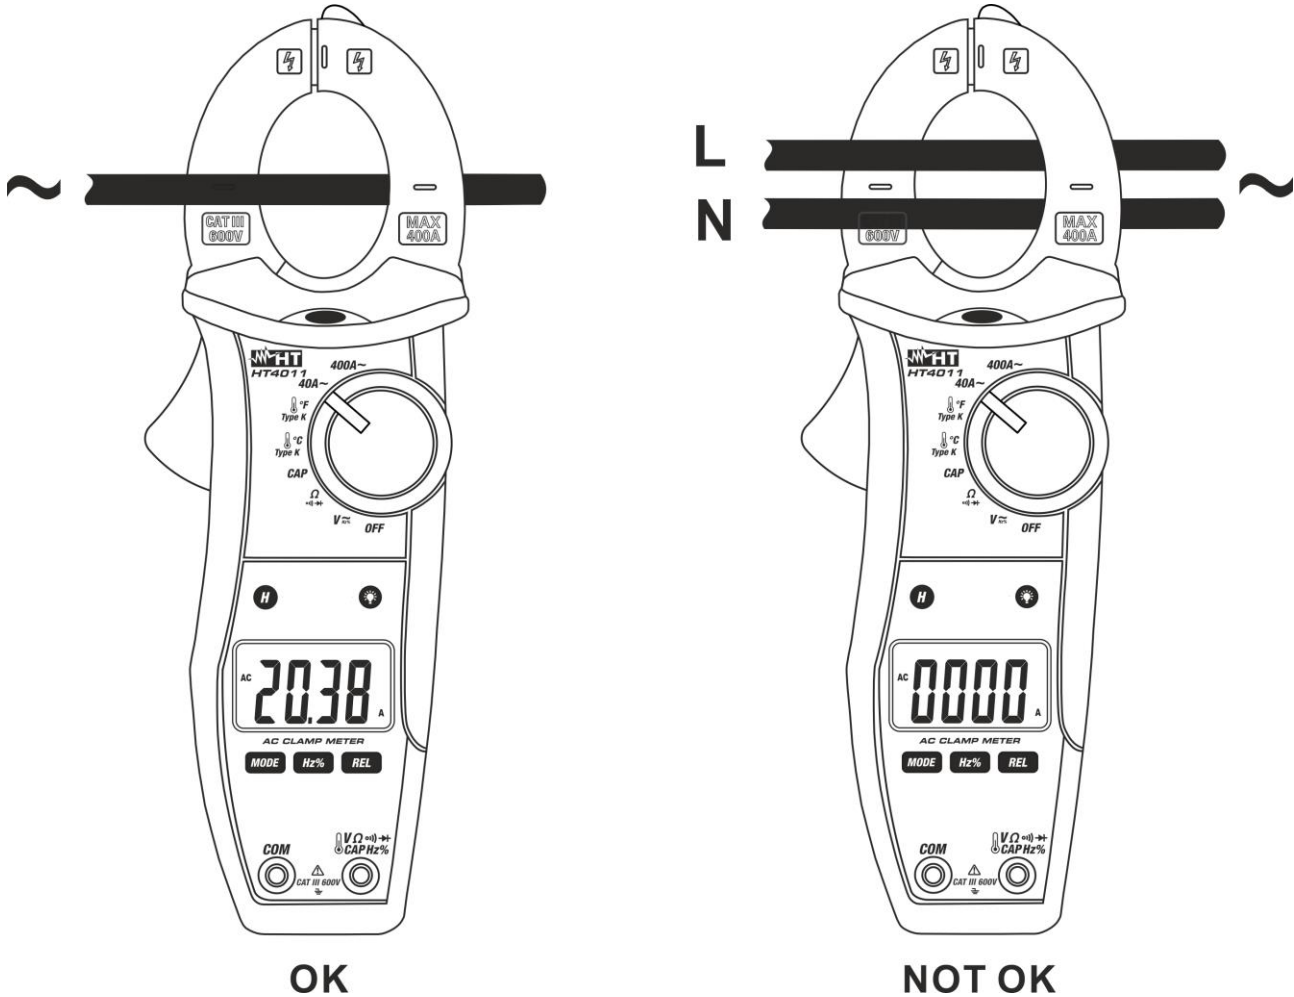

Fig. 10: Use of the clamp for AC current measurement
2. Insert the cable in the middle of the clamp jaws, to obtain accurate measures (see Fig. 10 – left side). The display shows the value of AC current